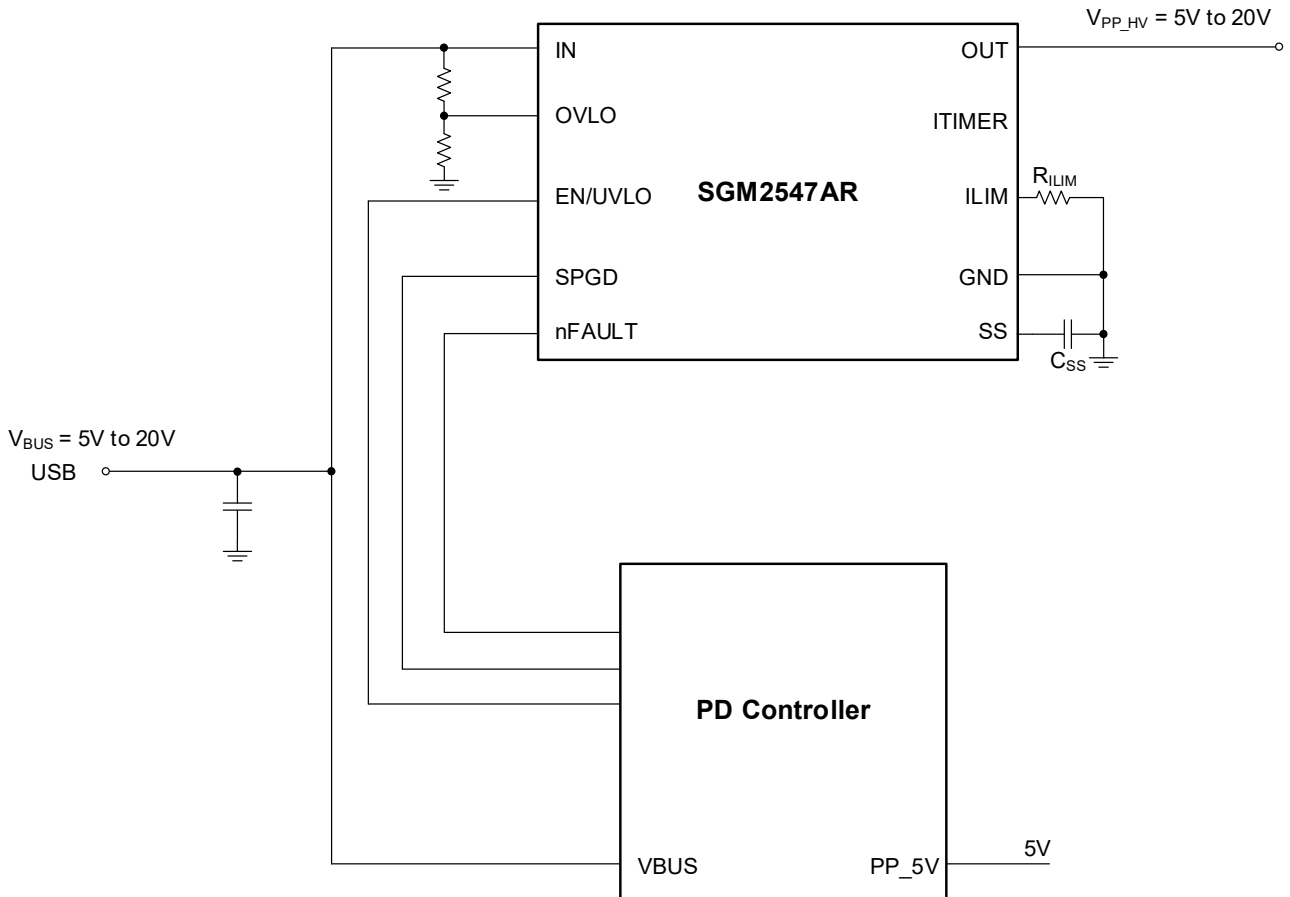

Figure 34. USB PD Port Protection
End devices such as PCs, notebooks, docking stations, and monitors support USB power delivery (PD) ports configurable as a DFP (Source), UFP (Sink), or DRP (Source/Sink). The SGM2547 can serve as a fully integrated power path management solution for USB PD ports, as illustrated in Figure 34.